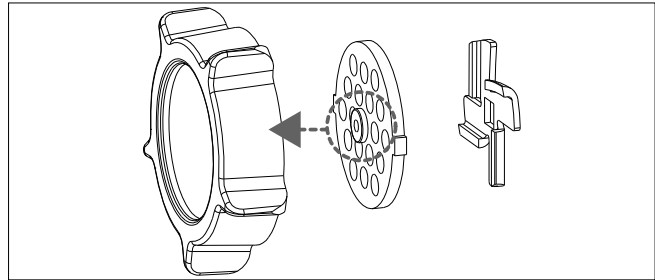

Fig. 13 – Inserting the perforated disc correctly
- ▶ Select a suitable perforated disc and place it on the axis of the worm housing. Ensure that the perforated disc is inserted into the worm housing with the groove in the correct position and the tab pointing forwards (see Fig. 13).